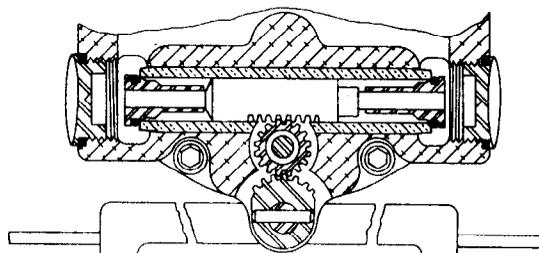

FIG. 5
- a. Remove Roll Pin (Y178-56) from Gear (34022) and Control Rod (34021). NOTE: If Head Assembly is not to be disassembled; Control Rod may be removed with Head, thereby making it unnecessary to re-time Gear (34022) with Throttle Valves. (See "Timing of Head"-Figure 5). To remove Control Rod with Head, remove Roll Pin (Y178-55) from Control Arm (37719), remove Roll pin (Y178-60) from Brake Block (34029) and remove Brake Block.
- c. With Gear (34022) and Control Rod assembled to housing, assemble valve parts as shown in Figure 5.